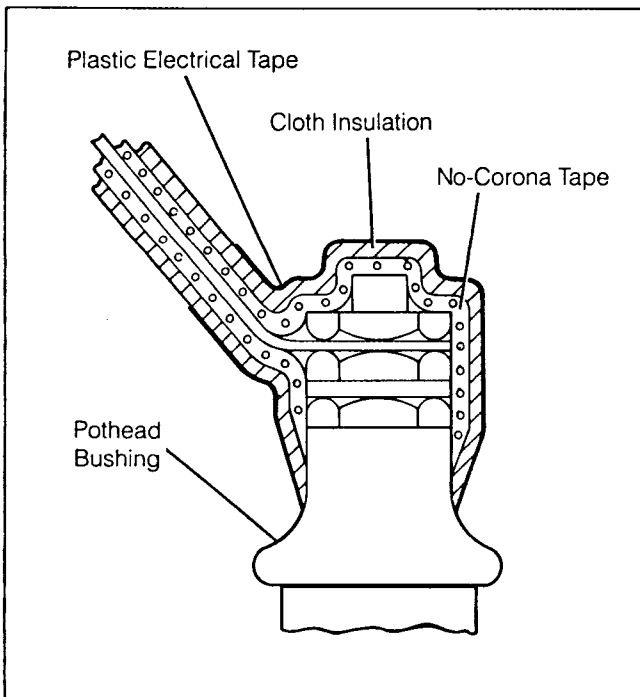

Figure 60. Insulating Pothead Bushing
Stress relief cones (See Figure 60) increase the strength of the cable insulation against puncture at the end of the grounded shielding. They also increase overall internal dielectric strength and reliability of the cable termination. Stress cones are recommended for all shielded cables and the higher voltage single-conductor lead covered cables. Belling out lead sheath is usually sufficient for lower voltage lead covered cables.
1. Wrap approximately 2' (610 mm) of no-corona tape over bolt heads to form a smooth surface. (See Figure 60.)